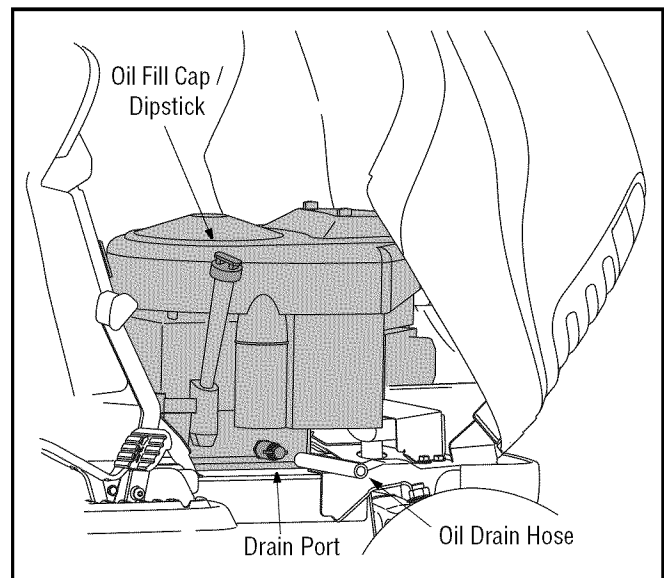

Figure 11
- Pop open the protective cap on the end of the oil drain valve to expose the drain port. See Figure 11.